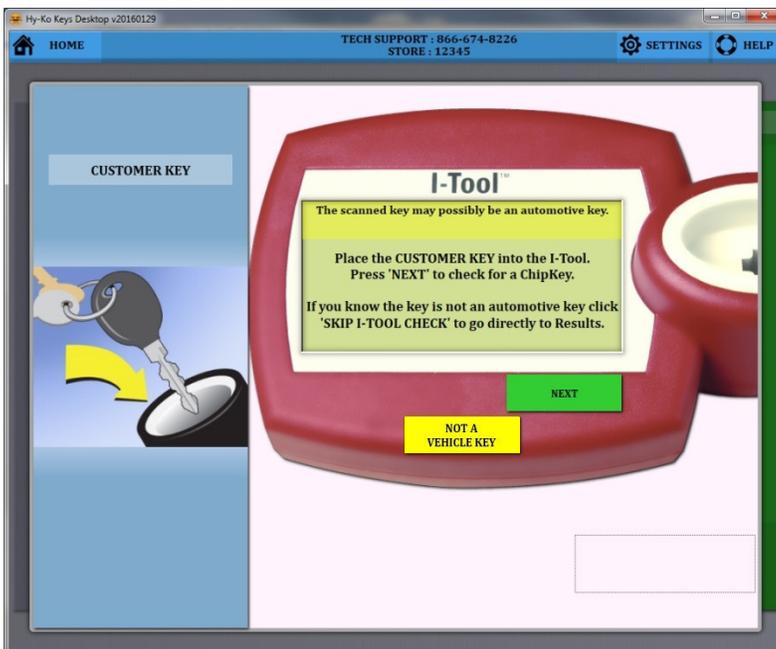

fig. 48
- Being a double-sided key the Vision Box will assume that the key is an automotive key and take you to the I-Tool screen (see fig. 48).